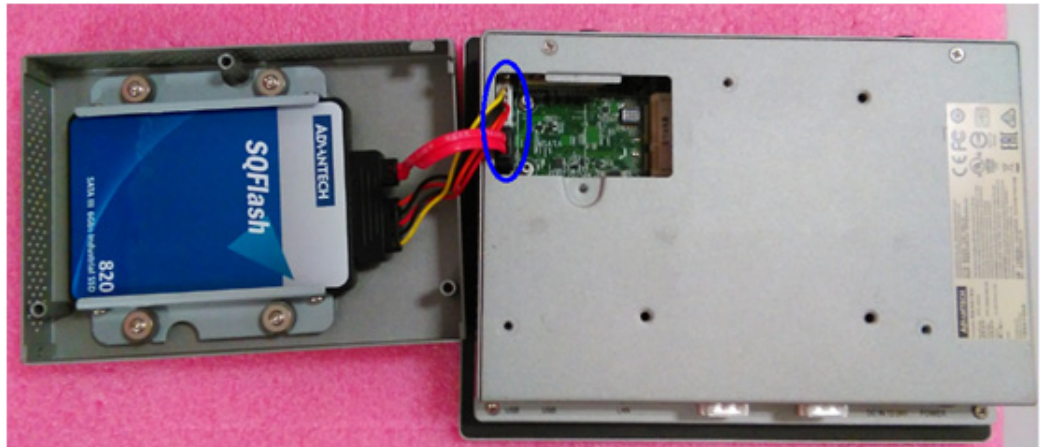

Figure 2.12 Connecting the SATA HDD to the Mainboard
5. Plug the SATA cable into the M/B's corresponding connector. (See Figure 2.12)